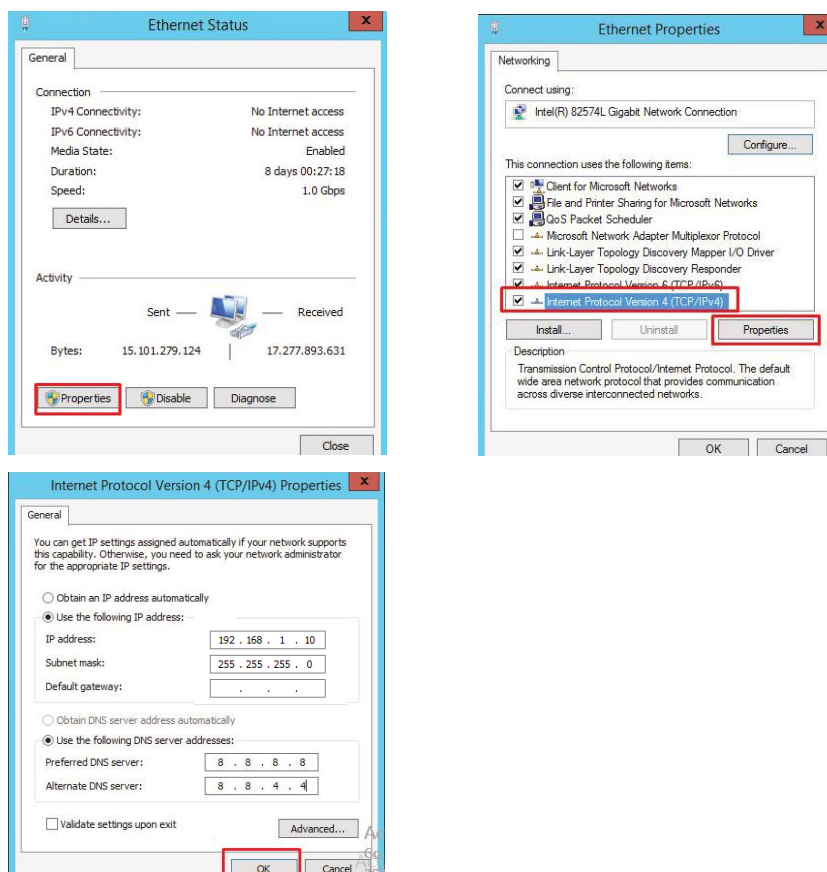

Figure 38. Network Settings
- From the Network Connections of the PC, go to the 'Property' tab of the Ethernet. An IP Address is defined to the PC by following the example procedures in Figure 38. Since the default embedded server IP (192.168.1.50) for communication is in 192.168.1.x/24 network, the PC side should also set accordingly.